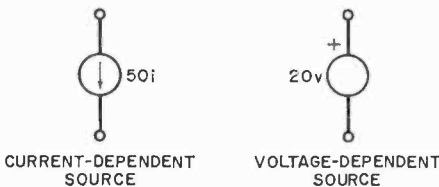

Fig. 21
B. Dependent (Controlled) Sources. A dependent, or controlled, source is one whose value is not specified, but depends on a current (or voltage) in the circuit. (Fig. 21) The bipolar junction transistor (BJT) of Fig. 22A can be represented, under certain operating conditions, by the simple model of Fig. 22B. Note that the value of the dependent current source, $h_{FE} I_B$, depends on the value of the base current, I_B .